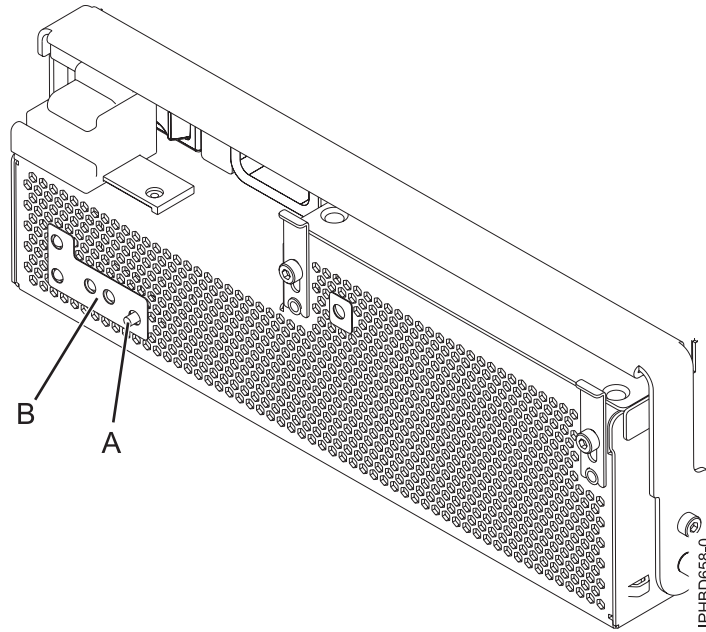
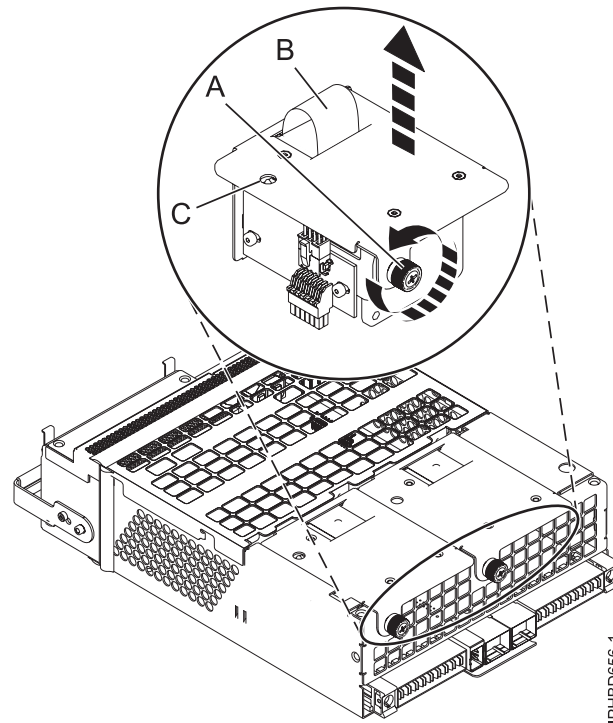

Figure 8. Fan fault LED and fan identify button
Figure 9. Removing a power supply fan
Note: If a fan fails, the amber fan fault LED on the front of the offline converter assembly (OCA) (B), shown in Figure 8 on page 11, is on solid.
- a. Identify the failing fan by pressing the fan identify button (A) shown in Figure 8. An amber left or right fan-fault LED (C) on solid, as shown in Figure 9, indicates the faulty fan.
- b. Loosen the thumbscrew (A) that holds the fan in the power-supply assembly, as shown in Figure 9.
- c. Use the recessed fan handle **(B)** to pull the fan out of the power-supply assembly, as shown in Figure 9 on page 11.